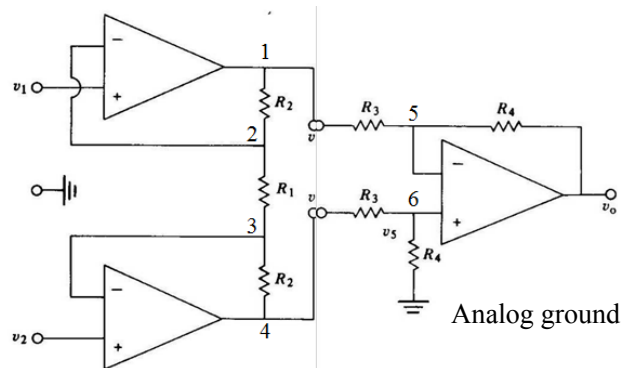

Figure 1: Basic instrumentation amplifier configuration.
- Study the routing of your circuit and determine which of the two inputs corresponds to v_1 and which is v_2 in the schematic in Fig. 1.
5. Use oscilloscope to check the waveforms of node 2 and 3 in Fig 1. Because of the virtual short at an opamp's input, these voltages should follow (match) the voltages applied to their respective positive terminals. Namely, node 2 should be a constant at analog ground while node 3 should show the input 100mV sine wave.